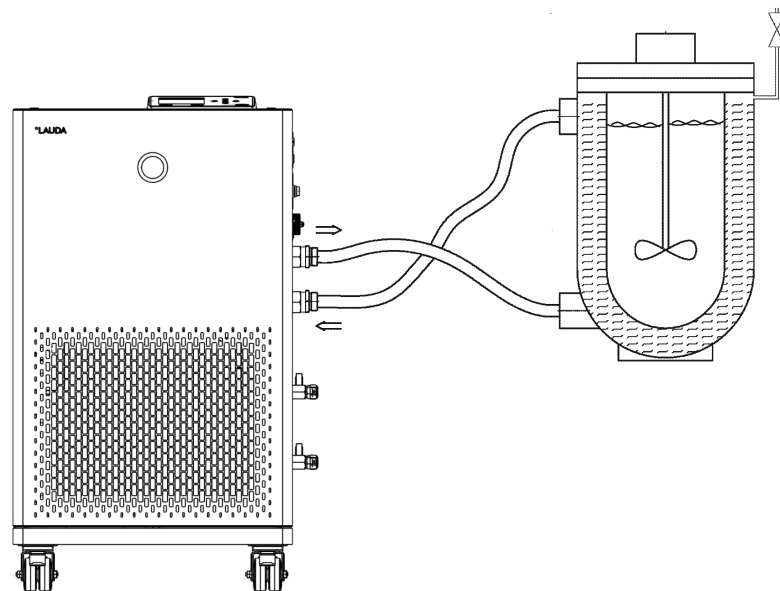

Fig. 13: Connection diagram with vent valve
- Depending on the type of application, a vent valve can significantly simplify the aeration process. The vent valve must be located at the highest point of the circuit (Fig. 13).
The external application must be connected according to the sketch (Fig. 13) so that gas/vapor bubbles can be removed from the system and undisturbed operation is possible. The outflow of the pump must be connected to the lower connection of the application. The return line to the pump connector must be connected to the top connection of the application. The application is thus flowed through from bottom to top.